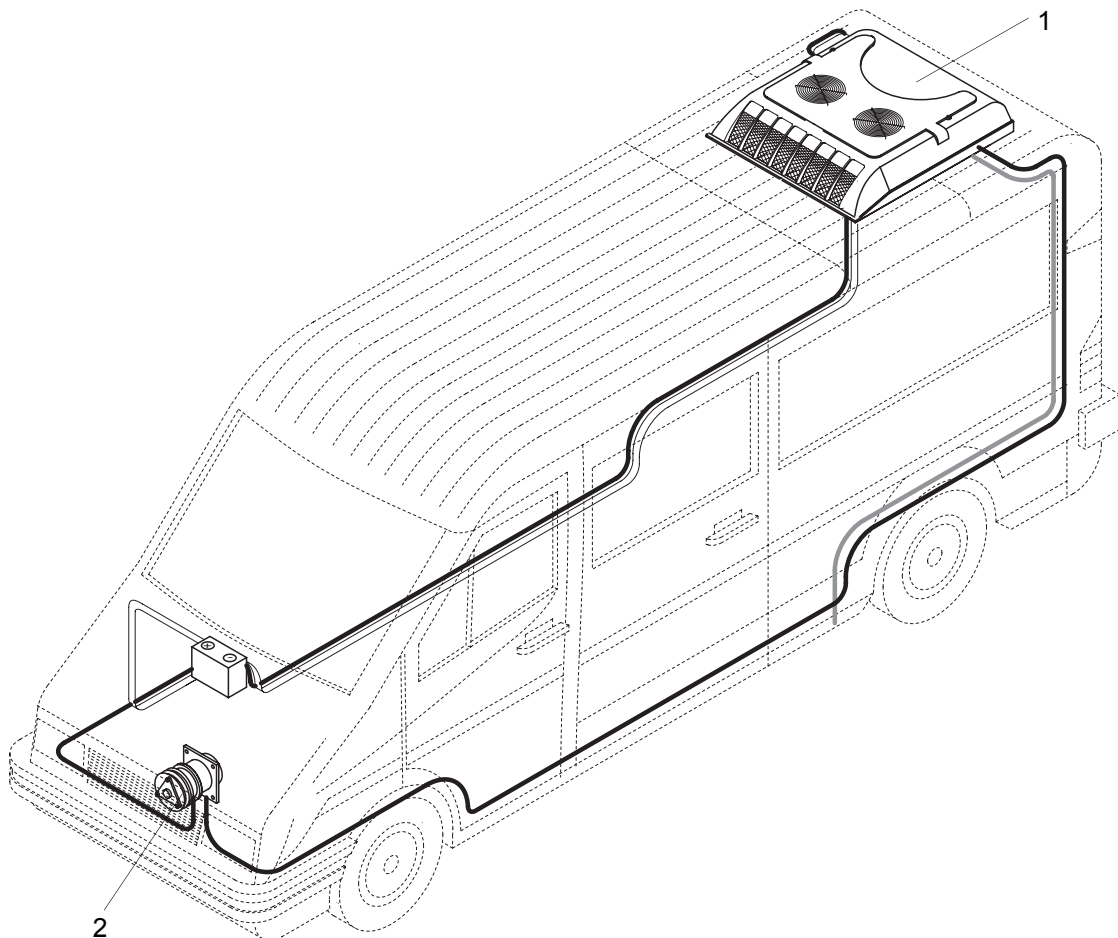
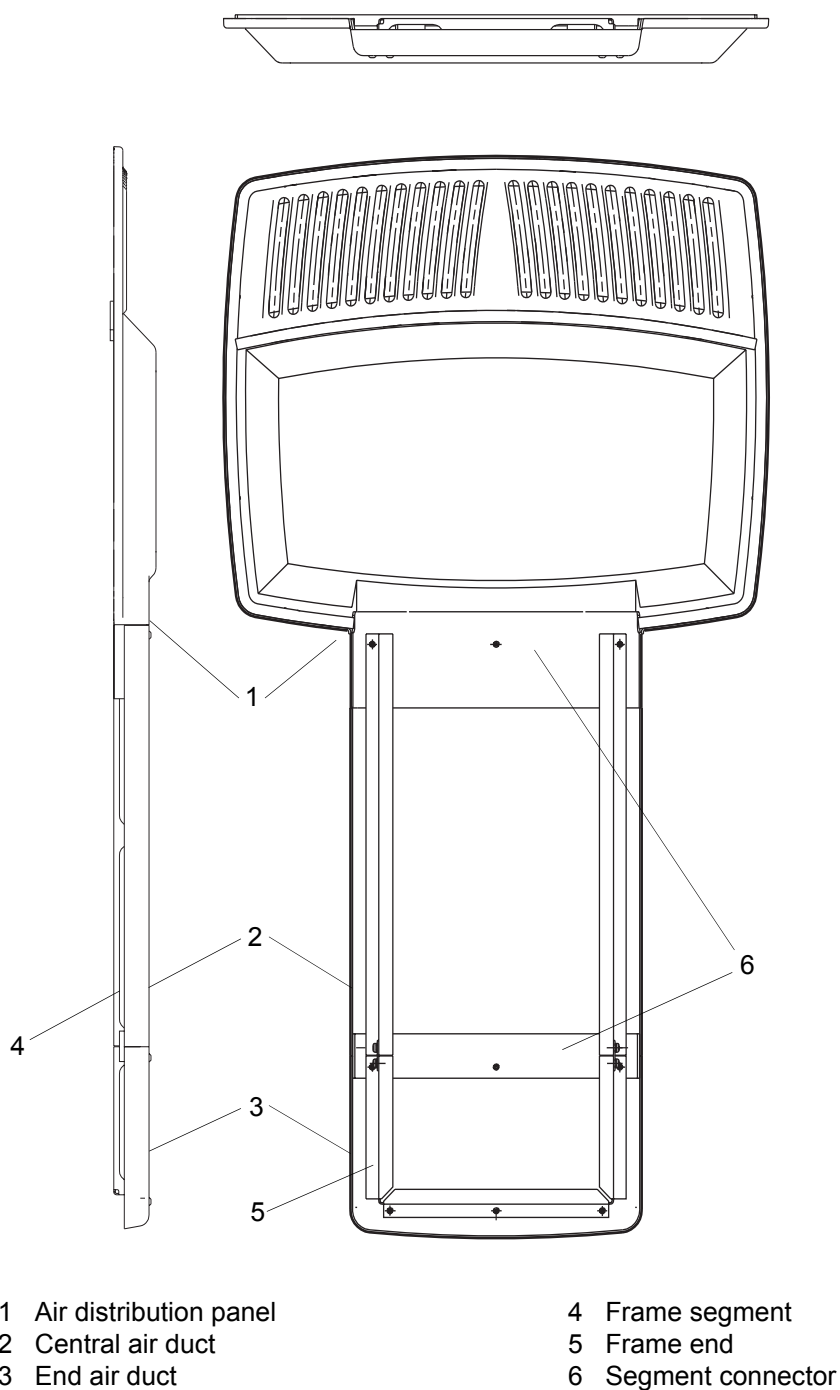

Fig. 201 Roof-top air-conditioning system CC8
Fig. 204 Air ducting system
The air-conditioning system consists of the roof-top unit (1, Fig. 201), the compressor (2), the air distribution panel (Fig. 203) and an optional air ducting system (Fig. 204).
The modular air ducting system (Fig. 204) can be installed in the vehicle to distribute air. The system comprises an air distribution panel, the central air duct and the end air duct. Several central air ducts may be installed, depending on the required length of the air distribution system.